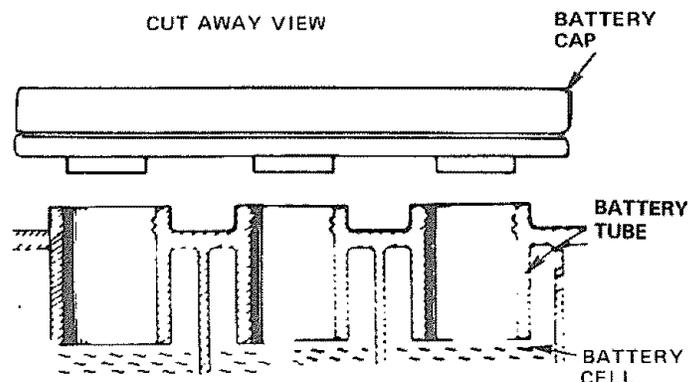

FIGURE 22
- Battery acid level in each battery cell should be even with bottoms of tubes in cells (Fig. 22). Add ONLY distilled water if necessary. NOTE: DO NOT OVERFILL.